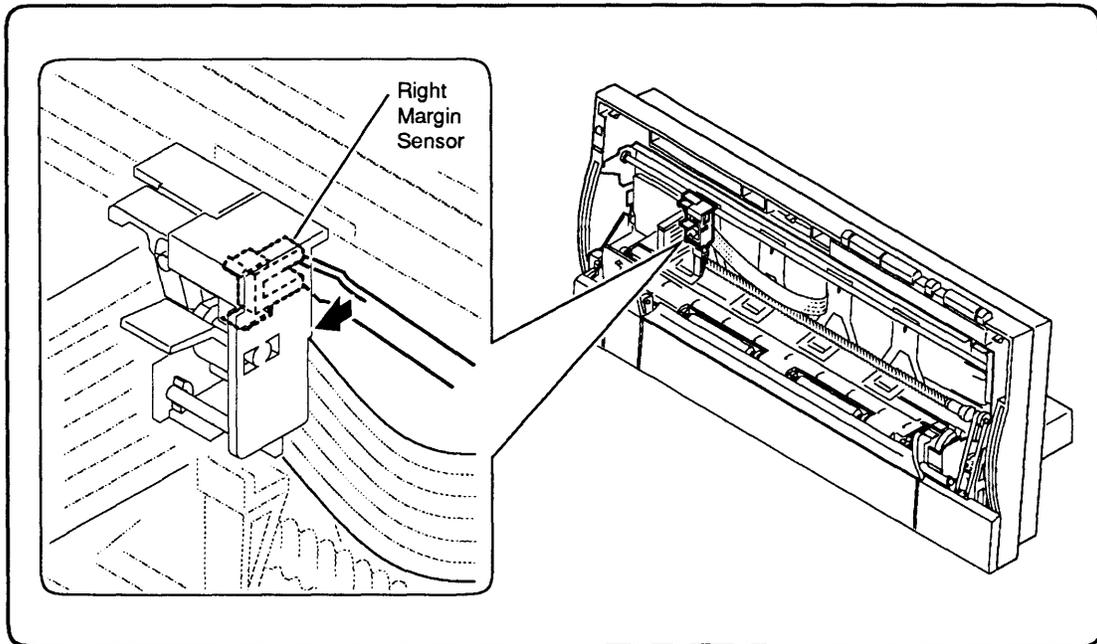

Figure 3-2 Reseating the Right-Margin Sensor
5. Locate the right-margin sensor behind the cartridge hook assembly (**Figure 3-2**).
7. If the sensor is loose, use your fingers, a screwdriver, or needlenose pliers to press the sensor into the cartridge hook assembly (**Figure 3-2**).